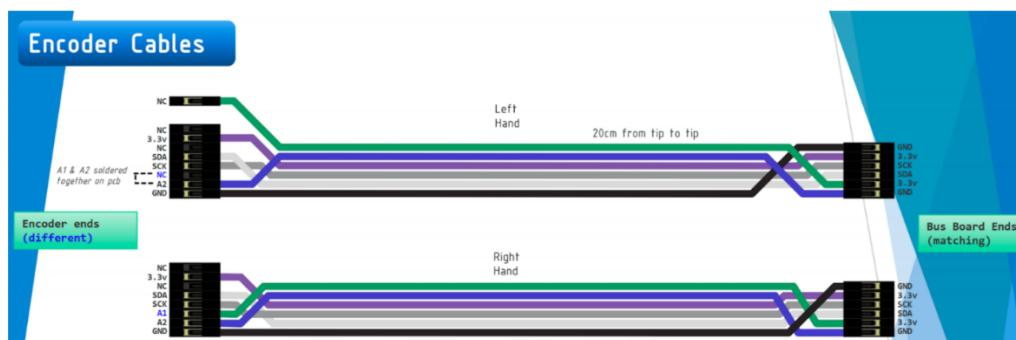

Figure 24
- Figure 24 below shows the way the left and right encoder cables should be wired and connected.
4. Verify again that your wiring is done as shown in Figures 24 and 25 before powering on the SCUTTLE.